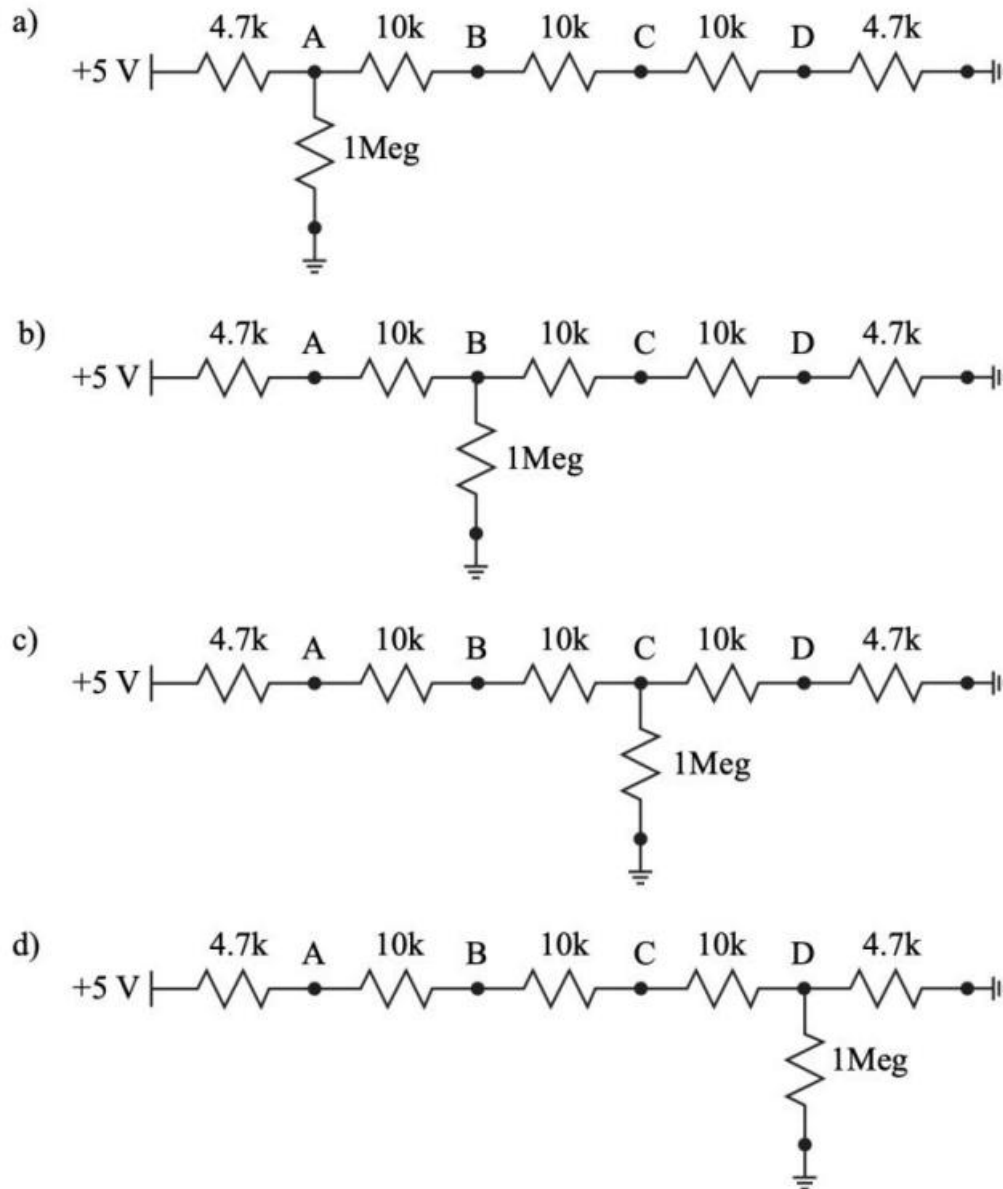

Figure 3.2: Resistor ladder with a 1 MΩ resistor attached at nodes A through D ((a) through (d)).
- When measuring the node voltages in real life, an oscilloscope is used. The scope probes have a finite input resistance of 1 M Ω . Re-simulate the node voltages with a 1 M Ω resistor at nodes A through D, Figure 3.2 (a) through (d). There should be a total of 4 simulations with node voltages A through D for each simulation. Table the values.
Table 2: Figure 3.2 a with 1 MΩ at node A
Table 3: Figure 3.2 a with 1 MΩ at node B
Table 4: Figure 3.2 a with 1 MΩ at node C
Table 5: Figure 3.2 a with 1 MΩ at node D